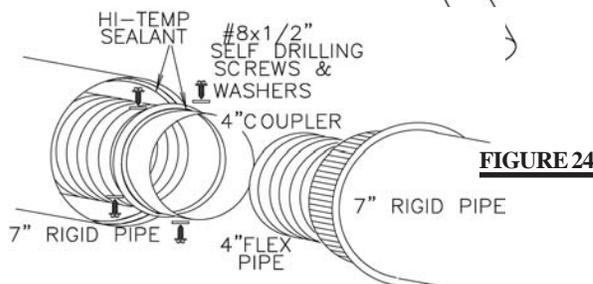

FIGURE 24
4. If more than one length of liner needs to be used to reach the stove, couple them together as illustrated in **FIGURE 24**. Seal the joints using the same procedure as described above.